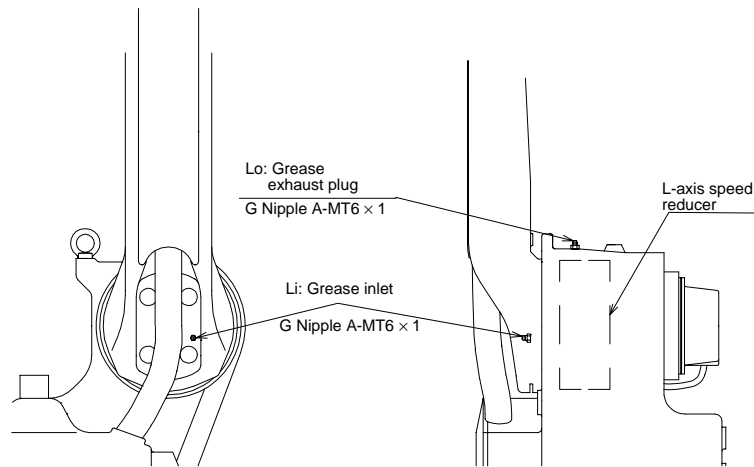

Fig. 27 L-Axis Speed Reducer Diagram
■ Grease Replenishment (Refer to " Fig. 27 L-Axis Speed Reducer Diagram ".)
■ Grease Replacement (Refer to " Fig. 27 L-Axis Speed Reducer Diagram ".)